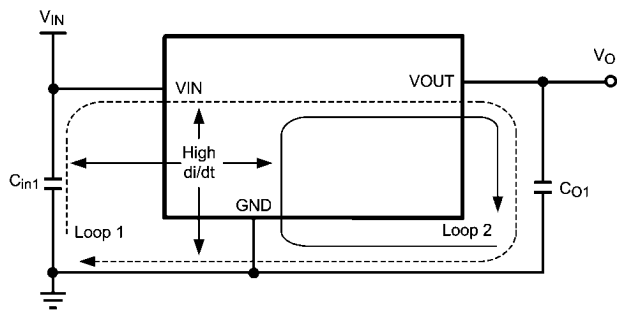

FIGURE 3.
From an EMI reduction standpoint, it is imperative to minimize the high di/dt paths during PC board layout as shown in Figure 3 above. The high current loops that do not overlap have high di/dt content that will cause observable high frequency noise on the output pin if the input capacitor (C_{in1}) is placed at a distance away from the LMZ22005. Therefore place C_{in1} as close as possible to the LMZ22005 VIN and PGND exposed pad. This will minimize the high di/dt area and reduce radiated EMI. Additionally, grounding for both the input and output capacitor should consist of a localized top side plane that connects to the PGND exposed pad (EP).